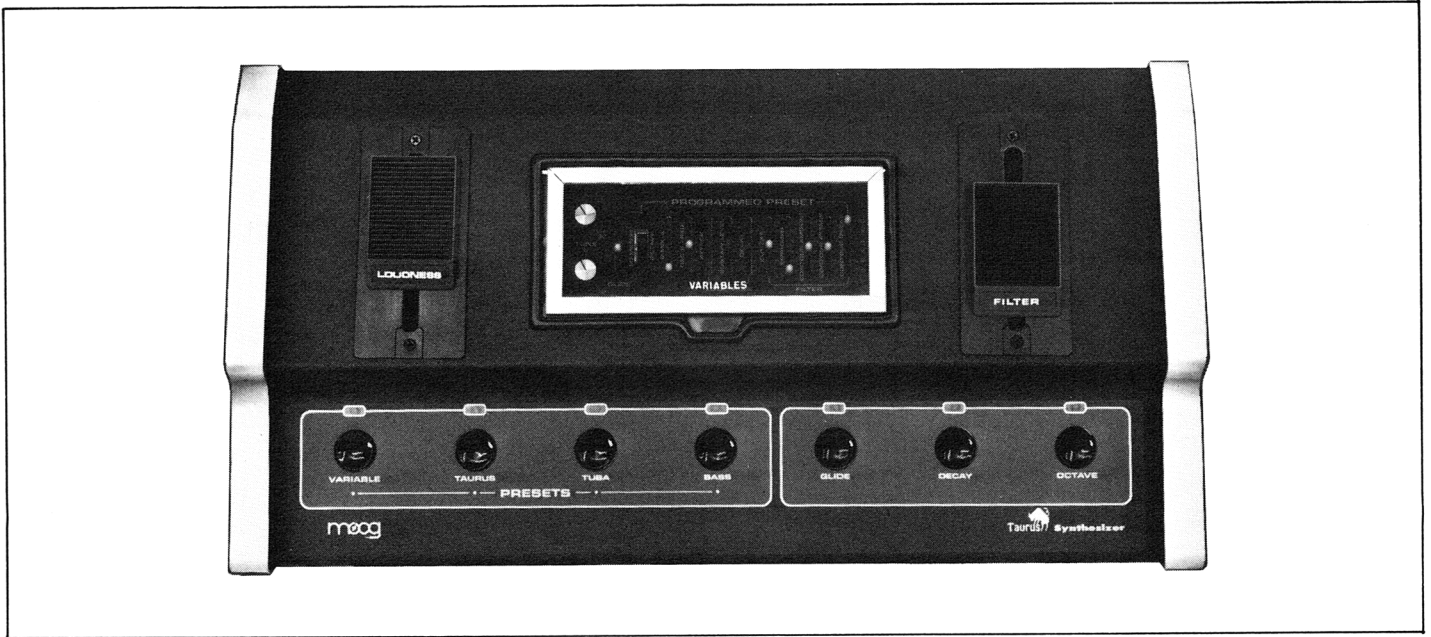

FIGURE 4-2 FRONT PANEL
(Figures 4-2, 4-3 and 7-1 through 7-4)
4.3 FET BALANCE (OCTAVE TUNING) (Figures 4-2, 4-3 and 7-1 through 7-4)
4.4 OSCILLATOR "A" TUNING (Figures 4-2, 4-3 and 7-1 through 7-4)
4.5 OSCILLATOR "B" TUNING (Figures 4-2, 4-3 and 7-1 through 7-4)